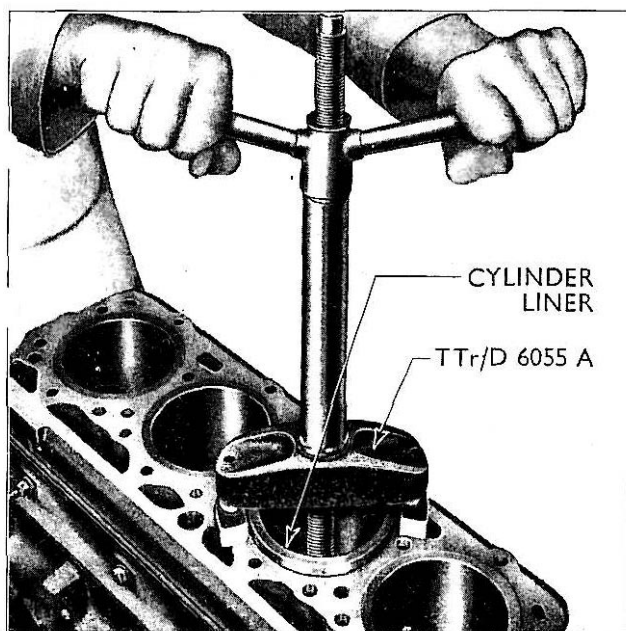

Fig. 29
- 4 Withdraw the liners, using the extractor (tool No. TTr D 6055-A—see Fig. 29), and remove the seals from their recesses in the block. If original liners are to be refitted, number and mark them for angular position. Do not make this mark on the top face of the flange.